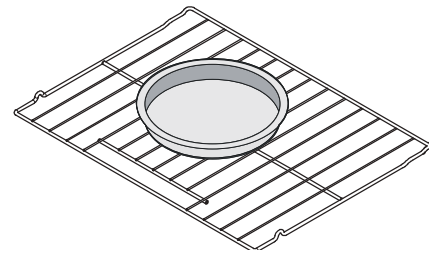
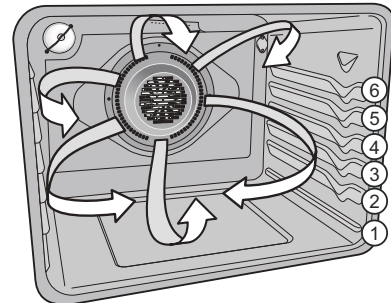

Figure 16: Single rack baking for convenience foods
Figure 17: Oven rack positions
- Always place food in center of the oven on rack position 4 (Figure 17). Place the food as shown in Figure 16.